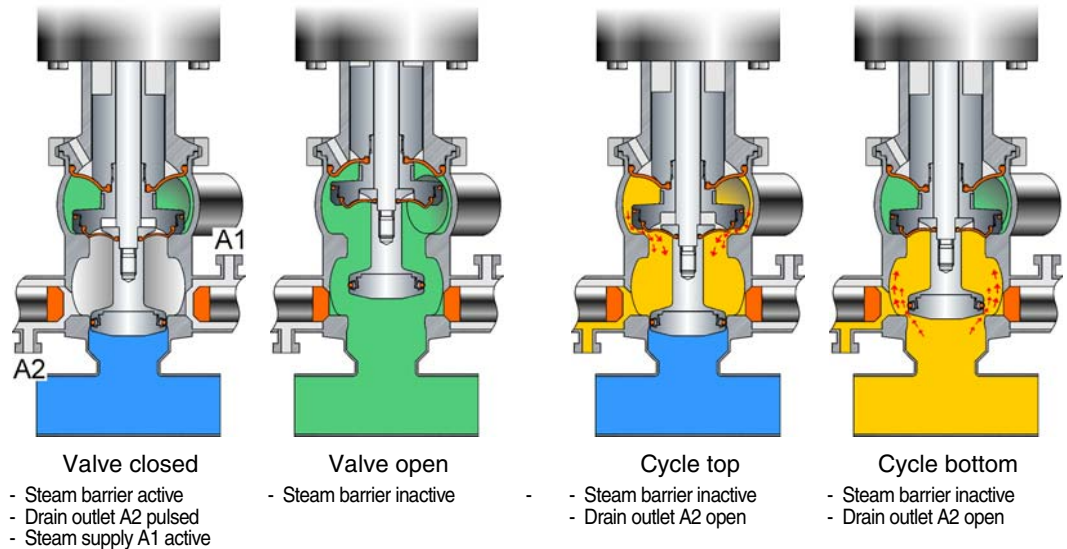

Fig. 1
- Danger of scalding and burns to parts of your body from liquids escaping from the leakage drain Fig. 1 /Page 6.